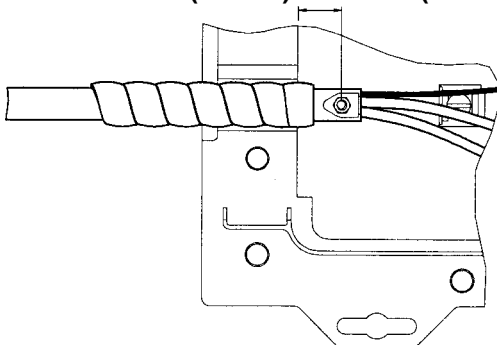

FIGURE 8 - POSITION CABLES WITH SHIELD CONNECTOR IN BOTTOM SHELL HALF
6.03 Lay the cables in the grooves in the bottom shell half. For cables with shield connectors, position the stud of the shield connectors 1-1/8" (29 mm) to 1-1/4"(32 mm) out from the inside end of the entry groove and facing upward. (Figure 8)